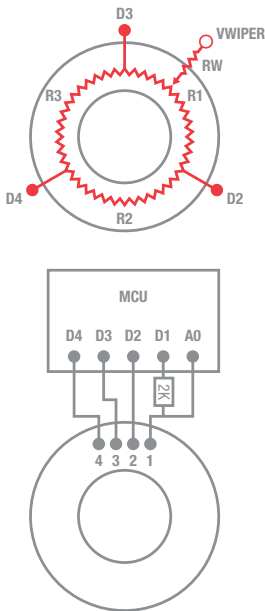

Figure 9. Circuit Diagram for the Ring Sensor and MCU Connection
Figure 9 shows the circuit diagram the ring sensor and connection to the MCU. In this diagram, digital pins 2, 3 and 4 of the MCU are connected to pins 2, 3 and 4 of the sensor respectively. Pin 1, is connected to an analog pin of the MCU and is also connected to digital pin 1 via a 2KΩ resistor. This pin acts as a virtual ground for measuring the force, and will be floating when calculating the position. Please note that pin 3 of the sensor, is in fact the first electrode (0° reference).
To calculate the angle, the pin furthest from the point of the touch which was determined in the previous section, will be left floating. Thus, if the furthest pin is pin 4 (as shown in **Figure 9** on the previous page), then:
- maxAngle and minAngle are the angles of the 2 closest pins i.e. in **Figure 9** D3 is at 0° and D2 is at 120° therefore maxAngle = 120 and minAngle = 0.